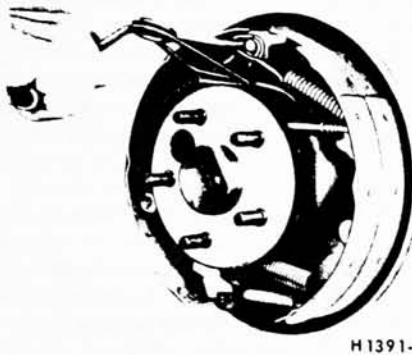

FIG. 14—Installing Retracting Spring
2. Remove the adjusting spring and adjusting lever. Remove the primary shoe-to-anchor spring with the tool shown in Fig. 14. With the same tool, remove the secondary shoe-to-anchor spring and unhook the cable eye from the anchor pin.
7. Install the secondary shoe to anchor spring (Fig. 14).
8. Install the primary shoe to anchor spring with the tool shown in Fig. 14.